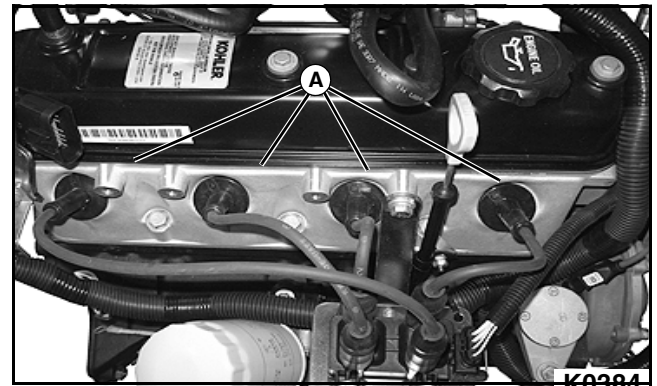

Figure 5-12
2. Use a cloth to wipe dirt and oil away from the area around each of the four spark plug wires (A). See **Figure 5-12**.